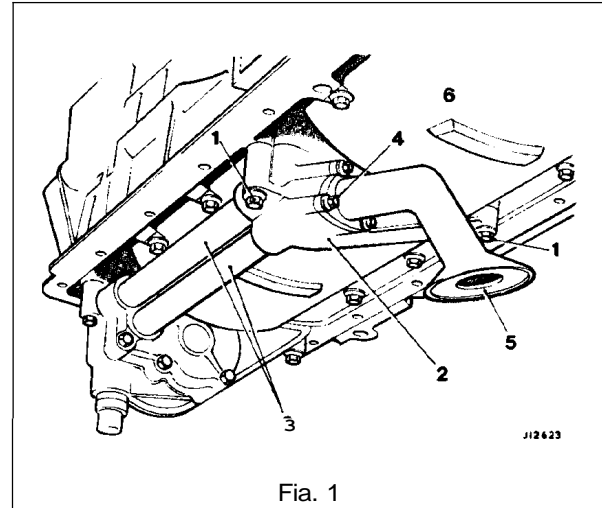

Fig. 1
- Remove the old oil seal from the timing cover using Service Tool JD 128 (A Fig. 1).
- Fit the new oil seal (prior to fitting the crankspacer) using Service Tool JD 129 and the crankshaft pulley bolt (B Fig. 1).
- Fit the new seal (3 Fig. 1) to the adapter and apply sealant to the appropriate faces. See Service Materials in the Preliminary Pages.